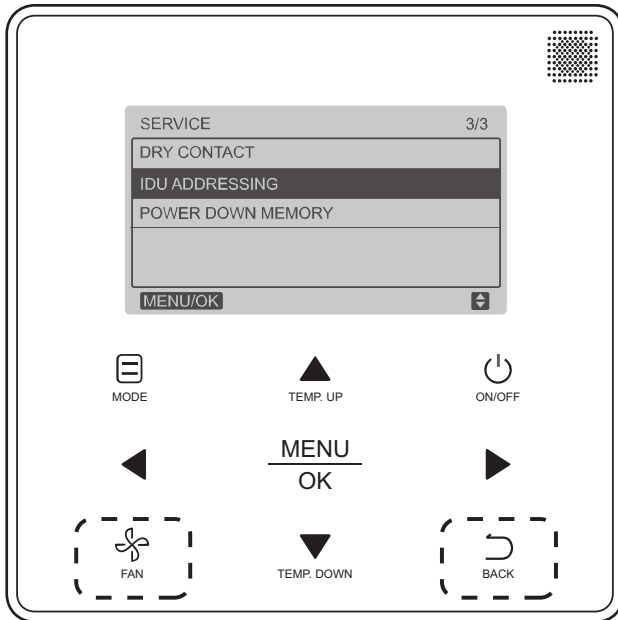

Fig. 40 —Programmable Controller IDU Addressing Menu
1. Press **FAN** and **BACK** simultaneously for five seconds to access parameter settings as shown in Fig. 40.